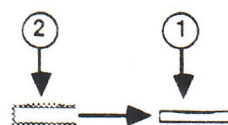

FIGURE 7
12. Check the plastic case to ensure that it has u-nuts installed on all the screw holes. If they are not installed, refer to Figure 7, which is a side view of one hole (Figure 7, #1) with the u-nut being slipped into position (Figure 7, #2).